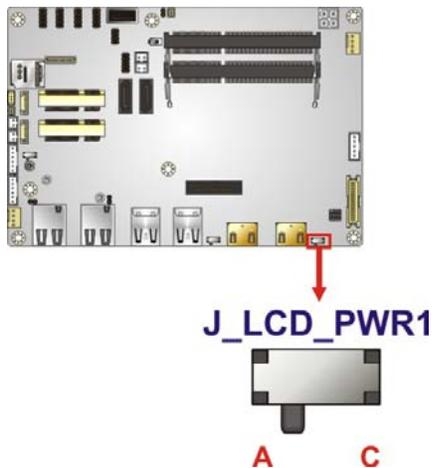

Figure 4-37: LVDS Voltage Select Jumper Location
- Jumper Location: See **Figure 4-37**